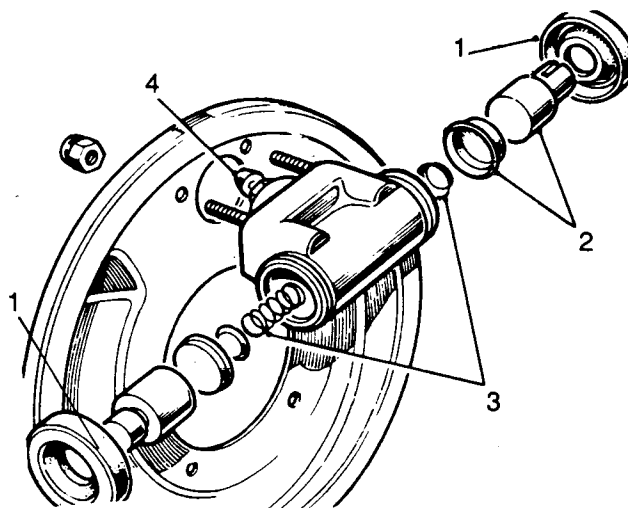

Fig K1.36
- (2) Refer to Fig K1.36. Replace the spring and seal supports (3).
- (3) Refit the pistons and new seals (2). Fit the piston seal with the lipped side away from the slotted end.
- (4) Replace the dust covers (1).
- (5) Fit the bleed screw and tighten to 5 to 8 N.m. Do not overtighten.
- (6) Replace the cylinder (see Sub-sub-section K1.4, Chapter 9).